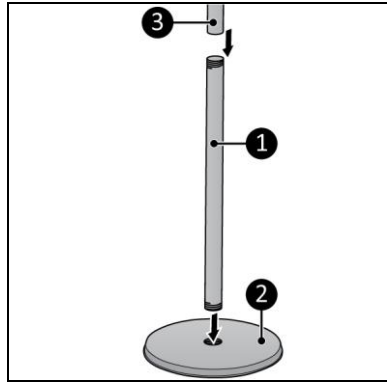

Figure 3
1. Screw the bottom tube (Figure 3, pos. 1) to the base (Figure 3, pos. 2).
2. Screw the adjustable tube (Figure 3, pos. 3) to the bottom tube (Figure 3, pos. 1).